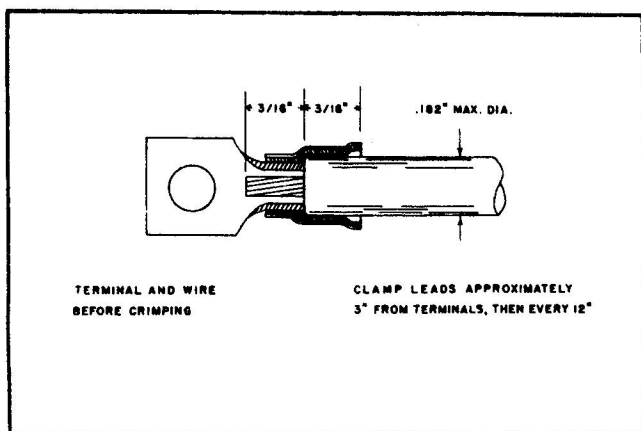

Figure 4-3 Correct Installation of Approved Fire Zone Terminals
(a) Replace all loose or defective terminals in fire zone. Test new wires with approved terminals as listed below. Because the wire recommended for installation in fire zones, para. 16, has insulation of larger diameter than standard high temperature 204°C (400°F) wire, only terminals with larger insulation sleeves give permanent, trouble-free service. Any attempt to squeeze the insulation into too small a terminal sleeve will result in unsatisfactory gripping of the wire insulation by the crimped sleeve. The insulation then pulls away from the pre-insulated terminal exposing the conductor to possible grounding. In addition the unsupported wire becomes subject to undue flexing and probable breakage under prolonged vibration, see Figure 4-3. To insure the best possible installation of the terminals the following procedure should be employed.
(2) Insert stripped section of wire into the correct terminal until  $3/16$  in. of the insulation has entered the pre-insulated sleeve, see Figure 4-3.
(3) Crimp only with Aircraft Marine Products crimping tool 49557, Firezone, Maintain pressure until tool interlock releases and permits opening of tool. Use no substitute tool.